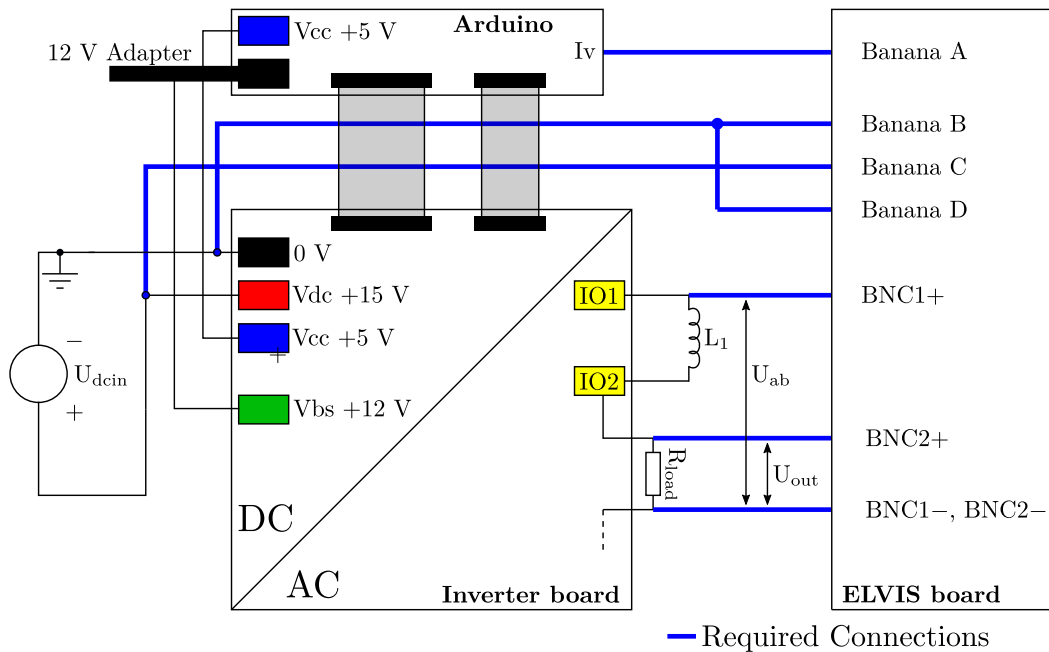

Figure 3.5: Full-bridge inverter hardware measurement schematic.
1. Confirm the full-bridge inverter board is prepared as per the schematic shown in Figure 3.5.